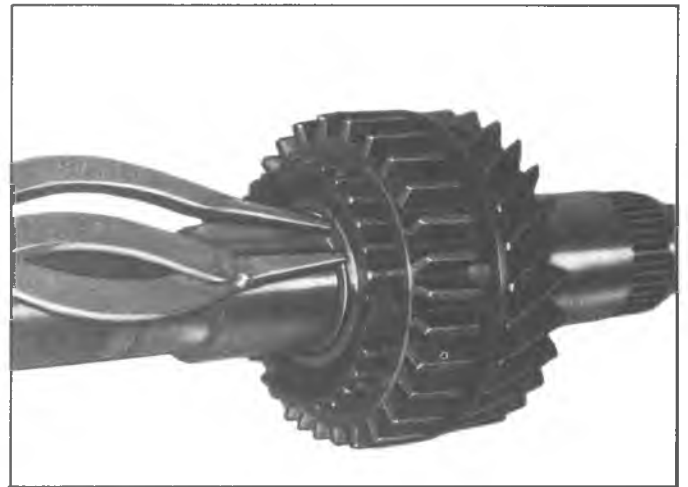

Fig. 10X--First and Second Synchronizer Snap Ring
5. Remove the 1st and second sliding clutch hub snap ring from the mainshaft (Fig. 10X) and remove the clutch assembly, 2nd speed blocker ring and second speed gear from the rear of the mainshaft. This completes the disassembly of the mainshaft.
8. Install synchronizer hub to mainshaft snap ring (fig. 10X).